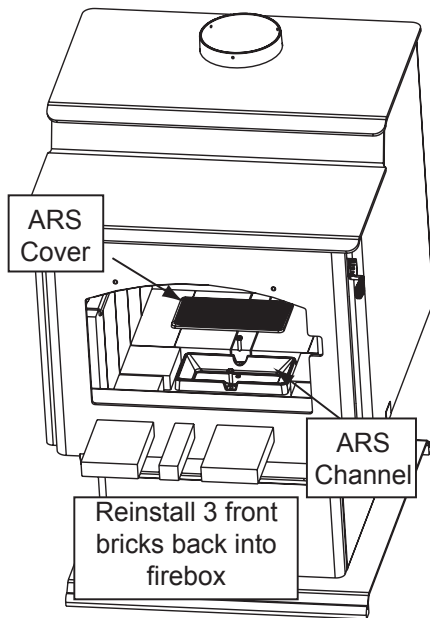

Figure 20.2
3. Lay appliance on its back on a protective pad or pallet (**Figure 20.2**).
4. Remove heat shield by loosening the four bolts using 3/8 open end wrench (**Figure 20.2**).
5. Remove 8 nuts that hold the cover plate on using a 7/16 socket wrench; discard cover plate (**Figure 20.2**).
6. Remove knock out from bottom of firebox by using a hammer (**Figure 20.2**).
3. Lay appliance on its back on a protective pad or pallet (**Figure 20.2 on page 20**).
4. Remove heat shield by loosening the four bolts using 3/8 open end wrench (**Figure 20.2 on page 20**).
5. Remove 8 nuts that hold the cover plate on using a 7/16 socket wrench; discard cover plate (**Figure 20.2 on page 20**).
6. Remove knock out from bottom of firebox by using a hammer (**Figure 20.2 on page 20**).